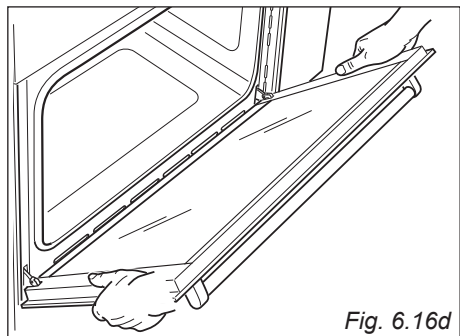

Fig. 6.16d
- Hold the door as shown in fig. 6.16d.